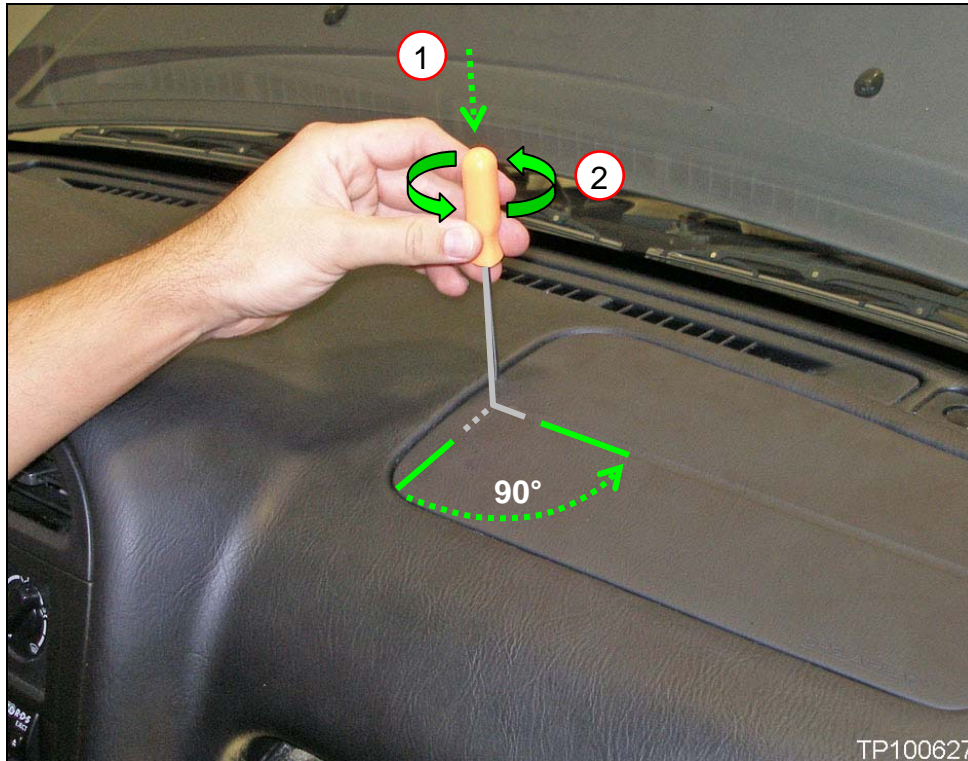

Figure 3
- b. Insert and then twist the tool 90° (90 degrees) as shown in Figure 3.